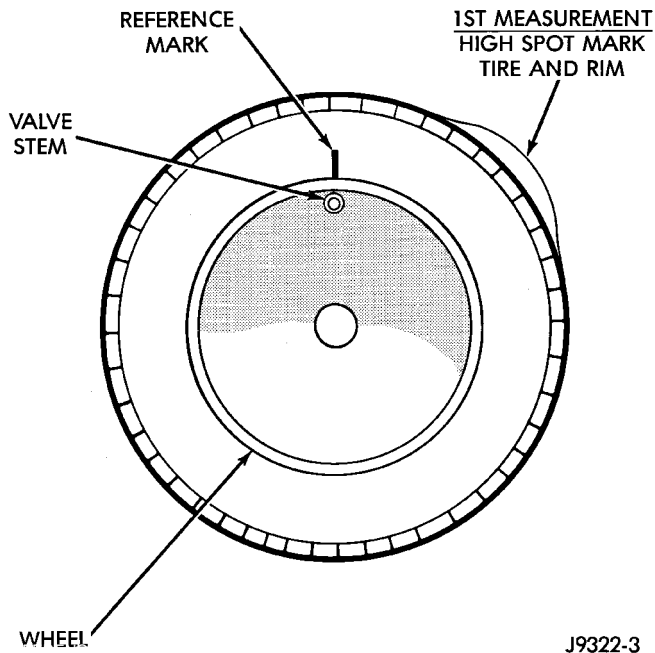

Fig. 8 First Measurement On Tire
(1) Measure the total indicator runout on the center of the tire tread rib. Record the indicator reading. Mark the tire to indicate the high spot. Place a mark on the tire at the valve stem location (Fig. 8).